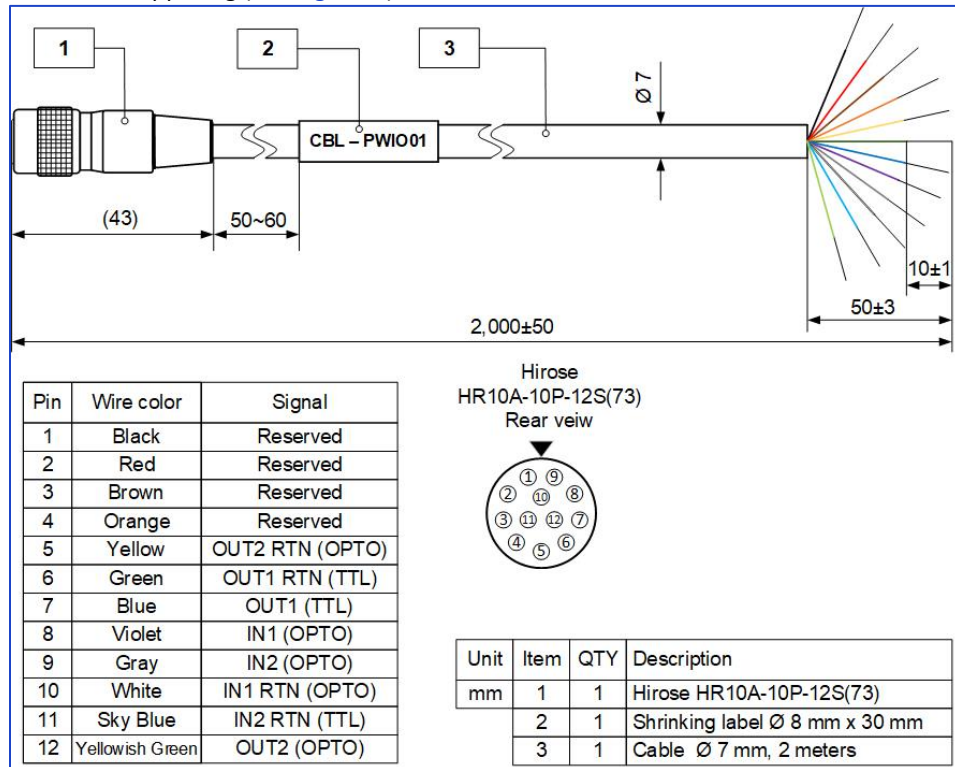

Figure 2: CBL-PWIO01 cable (ordered separately)
The optionally purchased PWIO01 cable is used for transmitting external trigger and strobe signals. It terminates in a female HIROSE plug #HR10A-10P-12S(73) on one end and 12 loose wires on the opposing end (see Figure 2).